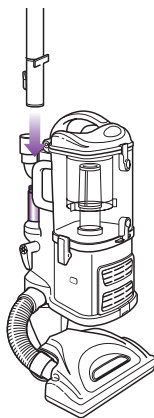

Fig. 9
- 3 Attach the end of the extension wand to the tube on the back of the *Lift-Away*® canister until it clicks into place. **(Fig. 9)**